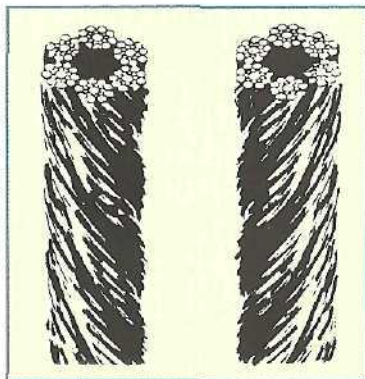

Fig. 16 Lang's Lay
**Lang's Lay (Fig. 16)** - a method of making a rope where the lay of the wires in the strand is the same as the lay of the strands in the rope. Although this construction has better wearing properties than ordinary lay, because it tends to untwist it has only limited use. It is not used for mooring lines.